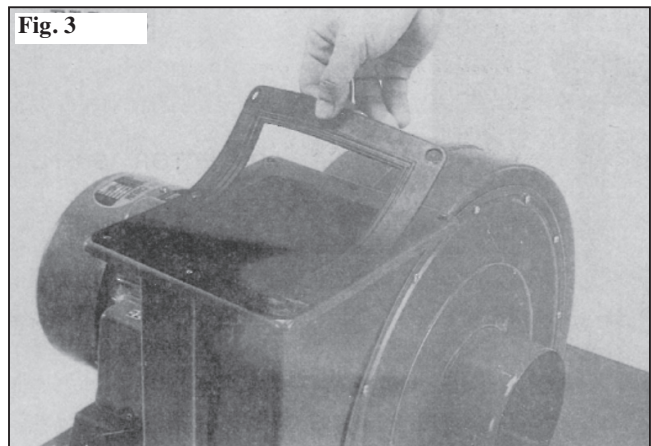

Fig. 3
Next, mount the outlet (L) packing (I) to the collector body as shown in Fig 3 and 4.